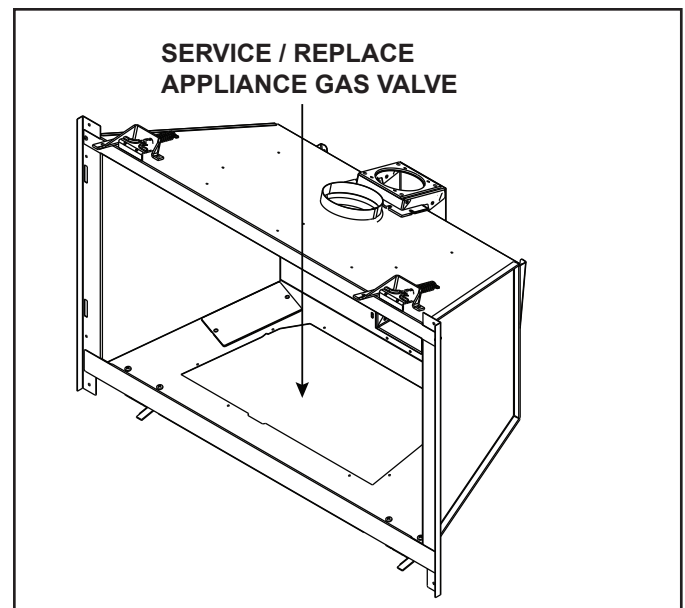

Figure 6.7 Gas Valve Detail
- See Figure 6.7.
- Remove appliance front, glass, logs, base pan assembly, burner assembly and valve plate assembly. See Figure 6.7.